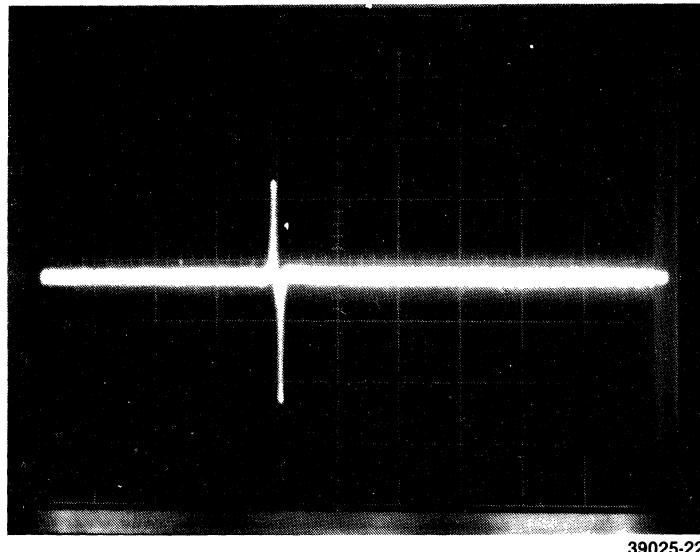

FIGURE 5-6. INDEX TIMING
- e. Observe timing between start of sweep and first data pulse. This should be $200 \pm 100 \mu$ sec. If timing is not within tolerance, continue on with adjustment. See figure 5-6.